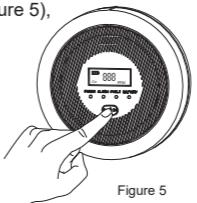

Figure 5
2) Alarm Mute: on activation of CO alarms below 300ppm, press 'Test' button to mute (refer to Figure 5), Mute function lasts about 10mins.